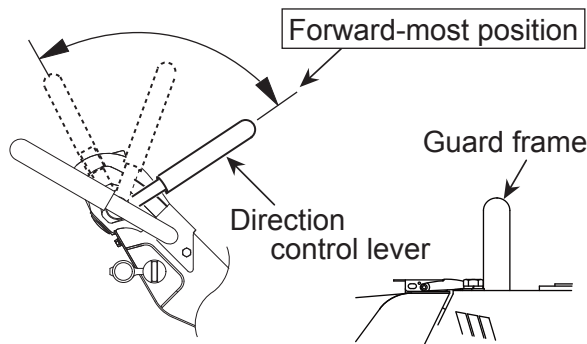

Figure 33. Direction Control Lever (Forward Position)
7. With the direction control lever at the forward-most position, secure the guard frame with a rope to immobilize (Figure 33).